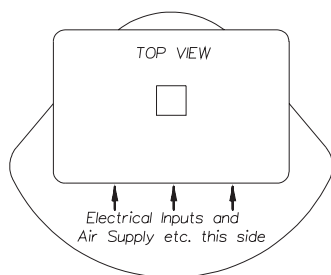

FIGURE 1. Mid Travel Orientation of Actuator Square and Positioner Box.
- (1) Move actuator vane to mid travel position, with its output square as shown in Figure 1. This is essential to prevent subsequent error in orienting positioner square.
- (2) Remove positioner cover, and undo the five M4 slot-headed screws holding the red plastic carrier plate into the body. Disconnect the two wires to the servo valve, and lift out the whole carrier plate assembly complete with shaft and circuit etc.
- (3) Bolt the positioner body to the actuator in the orientation shown in Figure 1, taking care that O-rings are in place to seal the ports into the actuator, and that the actuator shaft is centred in its hole.